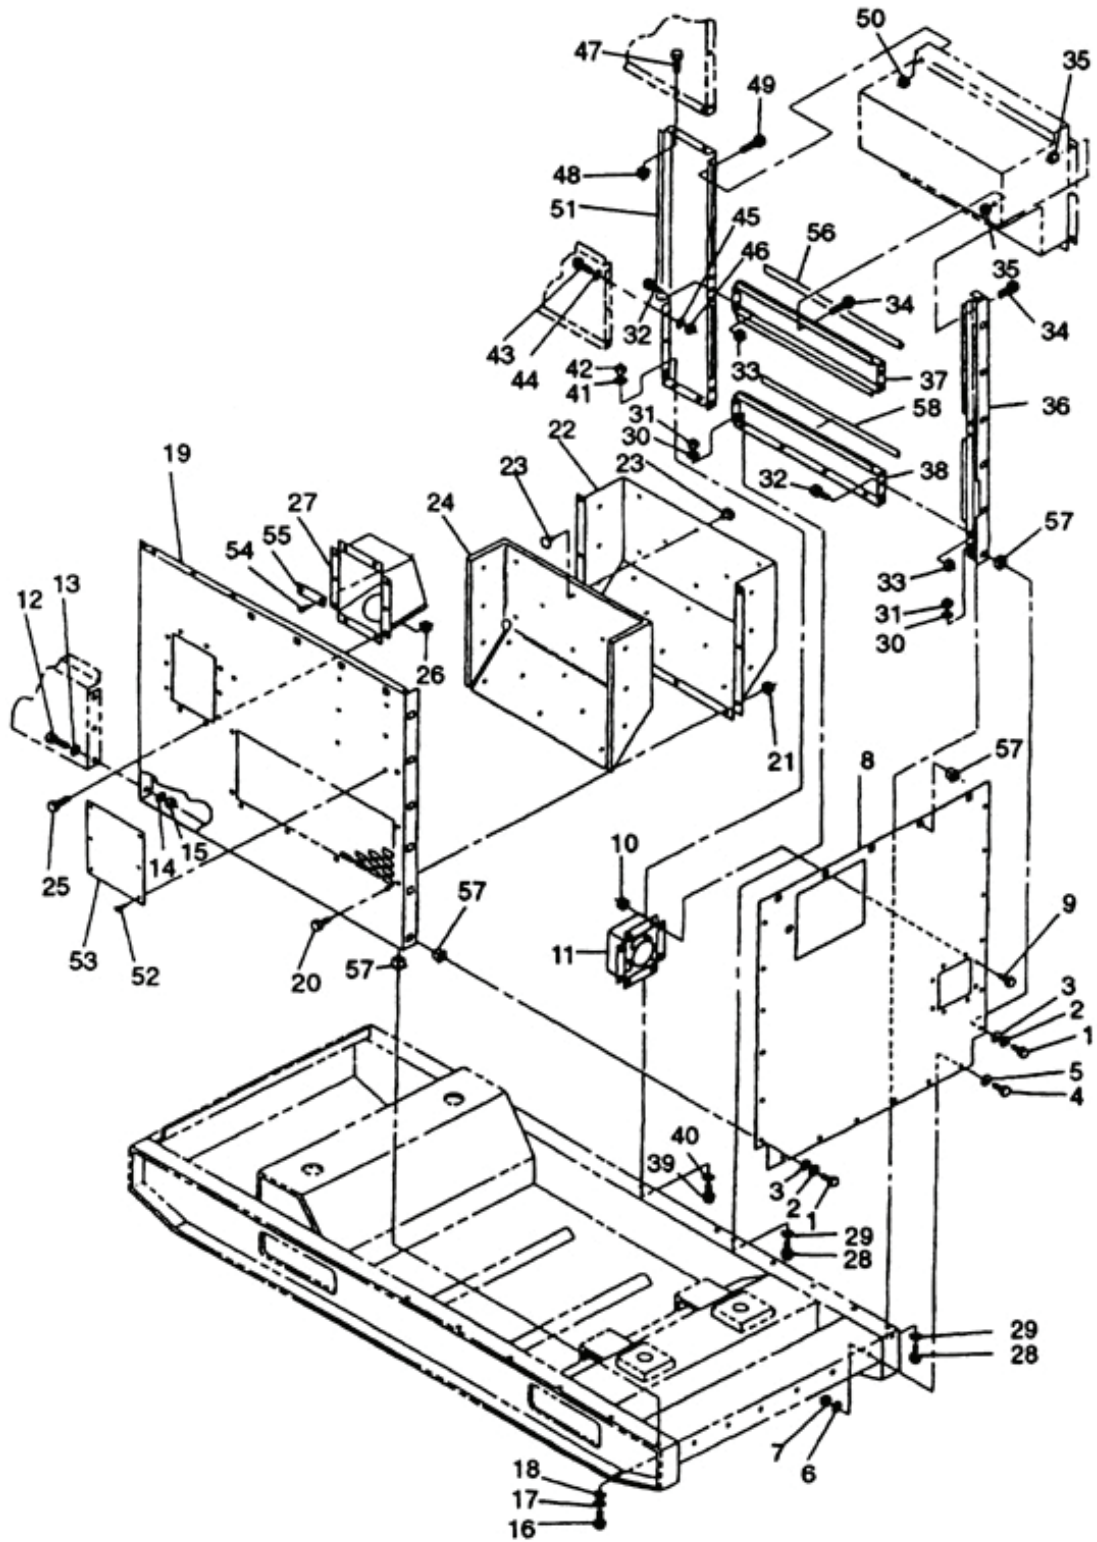

Figure 2-9. Generator Set Rear Housing Section.
- j. Remove bolts (1 and 4, Figure 2-9), flat washers (3 and 5), lock washers (2 and 6), nuts (7), and rear panel (8) from generator set. Discard lock washers (2 and 6).
- k. Remove bolts (9), assembled nuts (10), and load cable entrance box (11) from rear panel (8).
- l. Remove bolts (12 and 16), flat washers (13 and 18), lock washers (14 and 17), nuts (15), and left side rear panel (19) from generator set. Discard lock washers (14 and 17).
- m. Remove bolts (20), assembled nuts (21), and baffle (22) from left side rear panel (19).
- n. Remove clip halves (23) and insulation (24) from baffle (22).
- o. Remove bolts (25), assembled nuts (26), and fuel tank filler neck panel (27) from left side rear panel (19).
- c. Inspect all cage nuts (57, Figure 2-9) for cracking or stripped threads.
- e. Inspect EMI seals (56) for tears, looseness, and deterioration.
- f. Inspect door seals (58) for tears, looseness, and deterioration.
- c. Repaint surfaces in accordance with TM 43-0139. (F) Use applicable directives.
- d. Replace all cracked or stripped cage nuts (57, Figure 2-9).
- e. Replace damaged insulation and missing clip halves (23). Refer to Appendix D for fabrication of insulation.
- f. Replace EMI seals (56) that are loose or show any evidence of damage.
- g. Replace damaged door seals (58).
- a. Install plate (55, Figure 2-9) on fuel tank filler neck panel (27) with rivets (54), if removed.
- b. Install plate (53) on left side rear panel (19) with rivets (52), if removed.
- c. Install right side panel (51) on generator set with bolts (39, 43, 47, and 49), flat washers (40 and 44), new lock washers (41 and 45), nuts (42 and 46), and assembled nuts (48 and 50).
- d. Install door sills (37 and 38) and corner post (36) on generator set with bolts (28, 32, and 34), flat washers (29), new lock washers (30), nuts (31), and assembled nuts (33 and 35).
- e. Install fuel filler neck panel (27) on left side rear panel (19) with bolts (25) and assembled nuts (26).
- f. Install insulation (24) on baffle (22) with clip halves (23).
- g. Install baffle (22) on left side rear panel (19) with bolts (20) and assembled nuts (21).
- h. Install left side rear panel (19) on generator set with bolts (12 and 16), flat washers (13 and 18), new lock washers (14 and 17), and nuts (15).
- i. Install load entrance box (11) on rear panel (8) with bolts (9) and assembled nuts (10).
- j. Install rear panel (8) on generator set with bolts (1 and 4), flat washers (3 and 5), new lock washers (2 and 6), and nuts (7).
- k. Install output box EMI seals (56) on door sill (37), corner post (36), and right side panel (51) with adhesive (Item 1, Appendix C), if removed. Ensure closed side of seal faces outward.